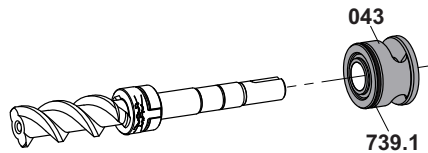

Fig. 14
5. Slide the new o-ring 739.1 onto the sealing sleeve 043 and slide the sealing sleeve onto the main screw, see Fig. 14.